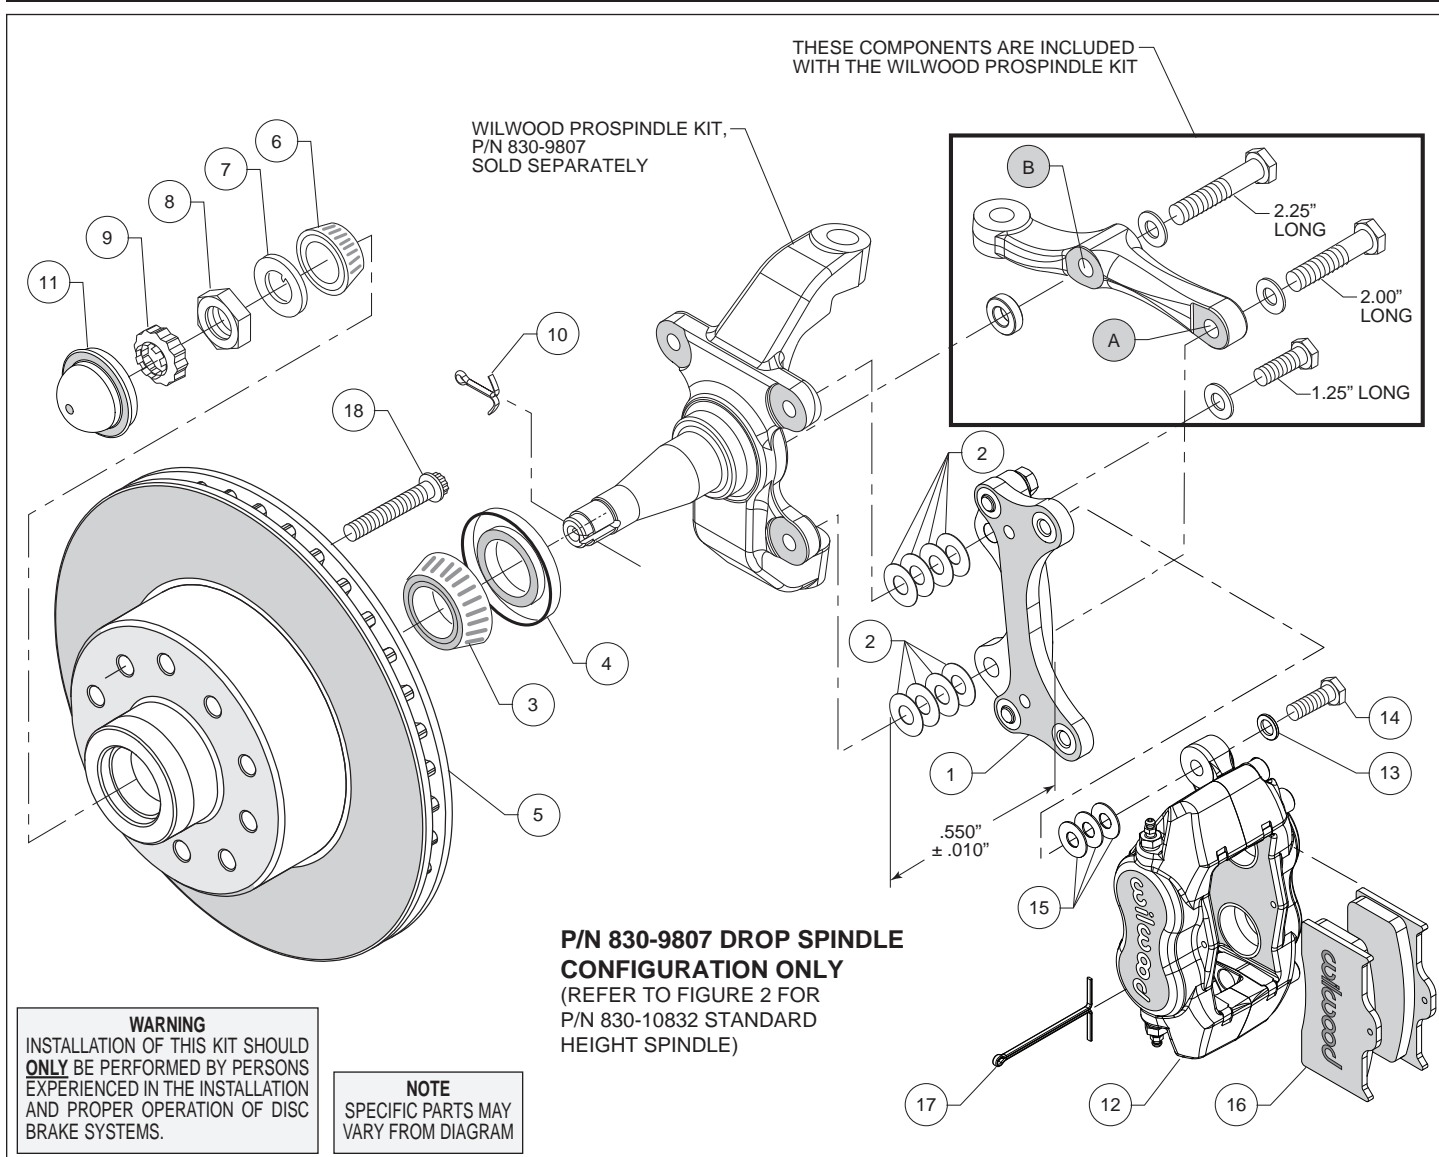
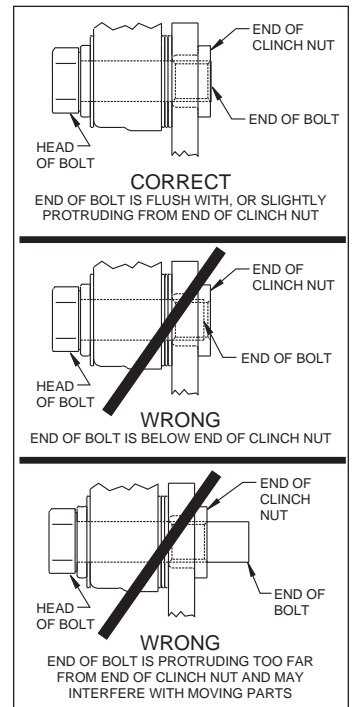

Figure 1. Installation Configuration For Drop Spindle, P/N 830-9807
Figure 4. Clinch Nut Engagement Diagram
**Assembly Instructions** (numbers in parenthesis refer to the parts list and Figures 1 or 2 on the preceding pages): **CAUTION:** All mounting bolts must fully engage insert nuts. Be sure to check that all bolts are either flush or protruding through flanged side of insert nut after shimming, Figure 4.
•**NOTE:** Each Wilwood ProSpindle kit includes bolts, washers, and a spacer to mount the steering arm and caliper bracket. The various bolts are identified by length in the following instructions and in Figures 1 and 2.
**For 2" Drop ProSpindle (P/N 830-9807):** The caliper bracket assembly (1) should initially be installed with clean, dry threads on the mounting bolts.
- Orient the bracket as shown in Figure 1 and Photo 1. Install at top spindle hole using 1.25" long bolt and .06" thick washer (from ProSpindle kit), and four .016" thick shims (2) between the bracket and spindle, Figure 1.
- Orient the steering arm, and identify the hole marked 'A', as shown in Figure 1. Install at bottom spindle hole using 2.00" long bolt and .06" thick washer (from ProSpindle kit), and four .016" thick shims (2) between the bracket and spindle, Figure 1. The bracket is located between the steering arm and spindle. **NOTE:** The bracket and shim washers must add up to a total thickness of  $.550" \pm .010"$ , Figure 1.
- Finish attaching the steering arm through the hole marked 'B', as shown in Figure 1. Install using 2.25" long bolt, .06" thick washer, and .25" thick spacer (all from ProSpindle kit), Figure 1.
- Install the grease seal (4) by pressing into the backside of the hub (5).
- Pack the small outer bearing cone (6) with high temperature disc brake bearing grease and install into the front side of the hub (5). Slide the hub/rotor onto the spindle. Secure using spindle washer (7), and adjusting nut (8). Bearing adjustment: Tighten the nut while turning the hub. When there is a slight bind on the bearings, they are seated correctly. Back the nut off about 1/6 to 1/4 of a turn, or sufficiently to allow .001" to .007" end play. **WARNING:** *Failure to back off adjusting nut could cause bearing to run hot and be damaged, which could cause the wheel to lock or come off.* Install spindle nut retainer (9) and new cotter pin (10), Photo 5.
- Press the dust cap (11) into hub (5), Photo 6. **NOTE:** *Do not hammer center of cap. Install using outer flange only.*
- NOTE:** *Please reference the caution statement at the beginning of the assembly instructions.* Mount the caliper (12) onto the caliper mounting bracket (1) using bolts (14) and washers (13), as shown in Figure 1 or 2. Initially place three .035" thick shims (15) on each bolt between the caliper and the bracket, Photo 7. Temporarily tighten the mounting bolts and view the rotor (5) through the top opening of the caliper. The rotor should be centered in the caliper, Photo 8. If not, adjust by adding or subtracting shims between the bracket and the caliper. Always use the same amount of shims on each of the two mounting bolts. **NOTE:** *The end of each bolt must be flush with or slightly protruding from the head of the clinch nut, as shown in Figure 4.* If necessary place spare shims between washer (13) and caliper mounting ear to achieve the proper clinch nut engagement. Once the caliper alignment and clinch nut engagement are correct, remove the bolts one at a time, apply red *Loctite*® 271 to bolt threads, and torque to 40 ft-lb.